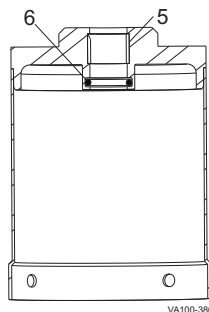

Figure 35: Remove O-ring and Bearing
6. Remove and inspect the upper stem O-ring (Figure 35, item 6) in the top of the actuator cylinder.
8. Inspect and replace the PTFE guide bearing (Figure 35, item 5) in the actuator cylinder as needed.